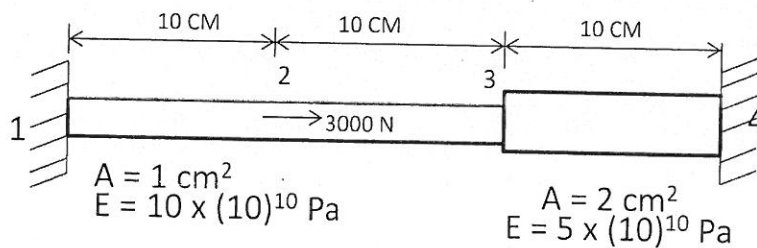

Fig.2
- Q.3. For three bar assemblage shown in fig.2, find i) the assembled stiffness matrix